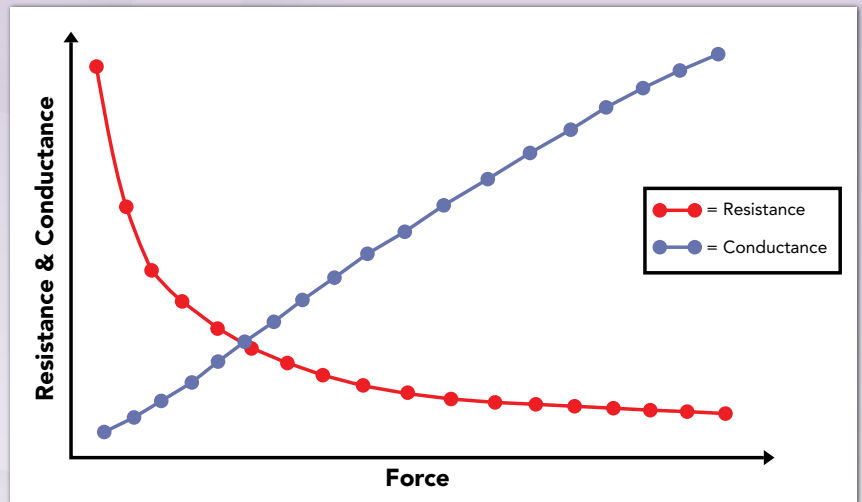

FIGURE 4: RESISTANCE & CONDUCTANCE CURVE
- If the sensor load is not consistent and controlled, you will not obtain a linear output as shown in **Fig. 4 (page 12)**. When loading is not applied to the active area of the sensor, the output of the sensor can be erratic and/or nonlinear. Localized high pressure points on the sensor may result in non-linear output. Manufacturing tolerances can cause stress concentrations with high stress points resulting in non-linear output.